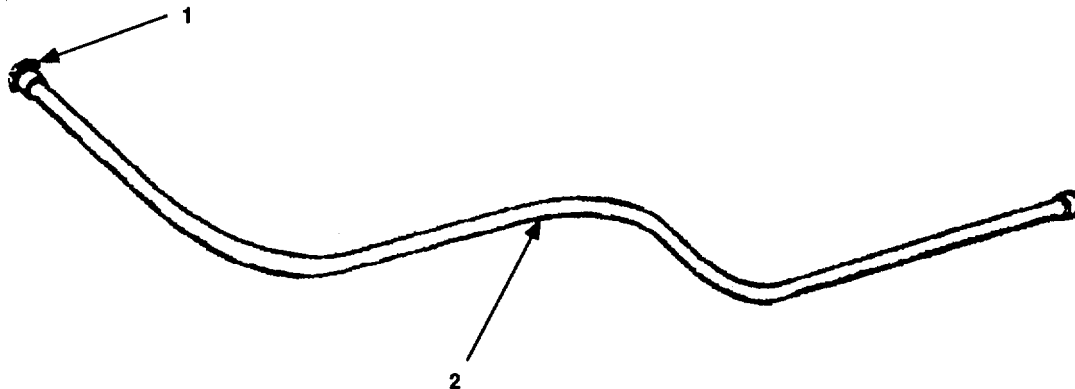

Figure 4-6. 6 Inch x 500 Foot Collapsible Hose Assembly Replacement.
- a. Remove two 6 inch grooved pipe couplings (Figure 4-6, 1) from 6 inch x 500 foot collapsible hose assembly (2).
- b. Remove 6 inch x 500 foot collapsible hose assembly (2).
- a. Align 6 inch x 500 foot collapsible hose assembly (2) with upline and downline 6 inch x 500 foot collapsible hose assemblies.
- b. Install two 6 inch grooved pipe couplings (1) to secure 6 inch x 500 foot collapsible hose assembly (2) with upline and downline 6 inch x 500 foot collapsible hose assemblies.